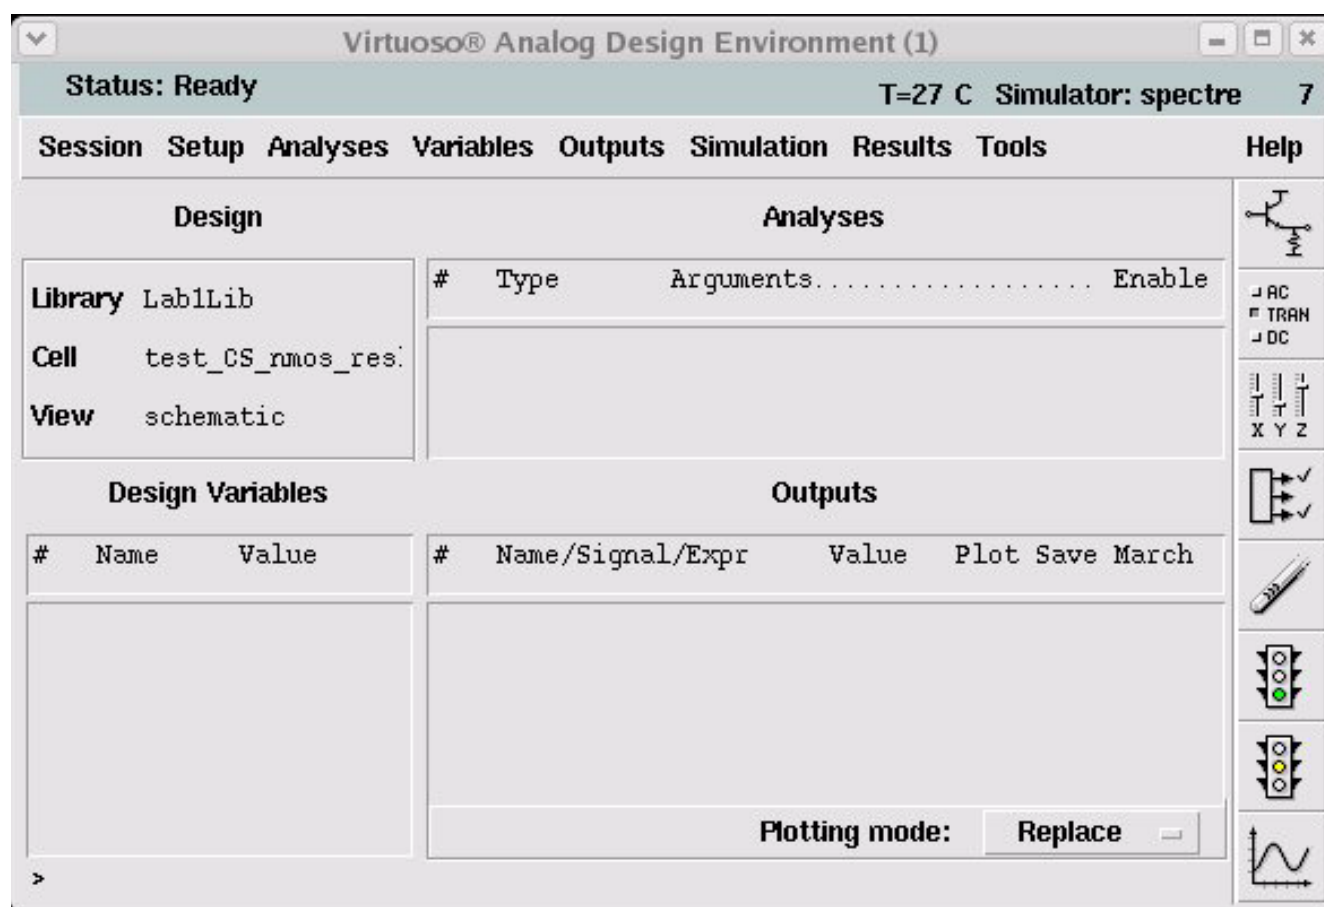

Figure 16: Analog Design Environment Window
- [1] *Open the analog simulator environment with SC/Tools/Analog Environment. The Analog Design Environment (ADE) window will appear (Figure 16)*